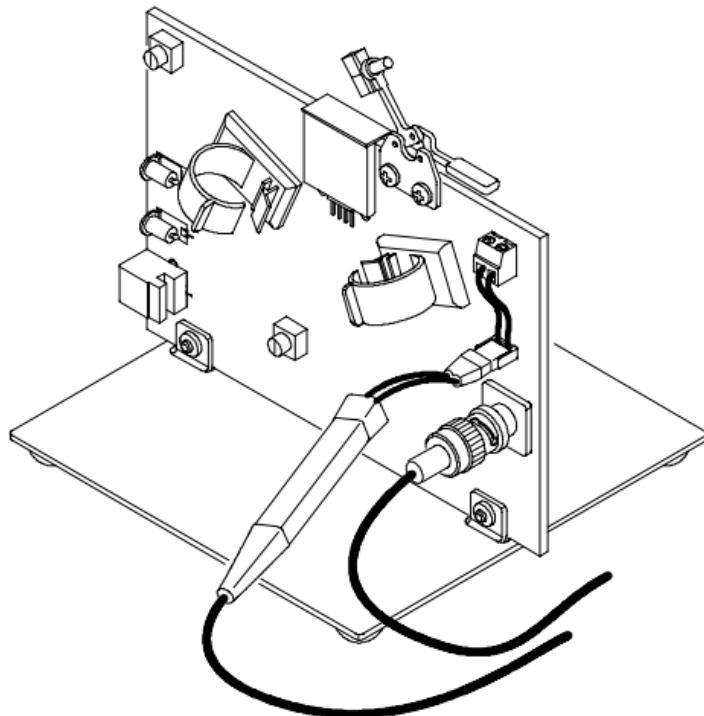

Figure 1: DC Probe Calibration connections
3. Connect the probe to the fixture as shown in Figure 1 on page 2.